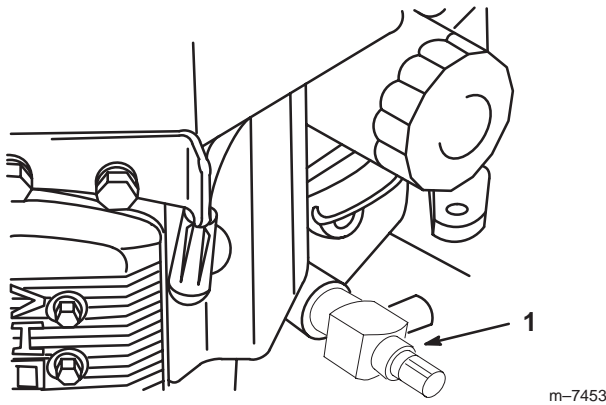

Figure 34
5. Place a pan under the oil drain hole in the engine frame (Fig. 34).
6. Open the oil drain (Fig. 34).